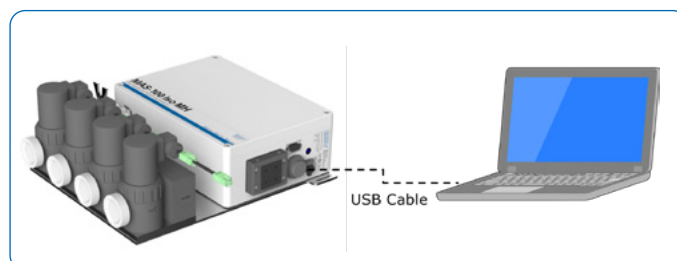

Figure 4: Connecting the MAS-100 Iso MH® Sampler to the computer
- Connect the USB cable to the sampler and to the computer (**Figure 4**).